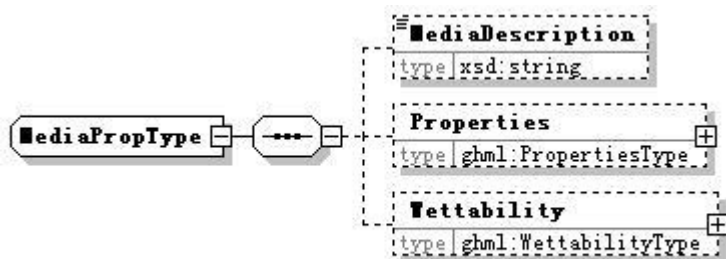

Figure 3. MediaPropType
- **MediaProperties[MeidaPropType]** - A data block that lists all the parameters that describe the hydraulic, thermal and wettability properties of the geologic medium (Figure 3).